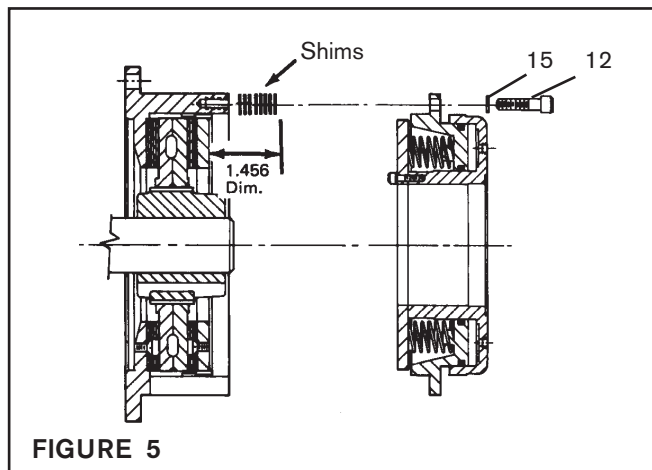

FIGURE 5
- NOTE: Shims are required to achieve the 1.456 dimension (See Figures 5 and 6 for proper Shim placement.)